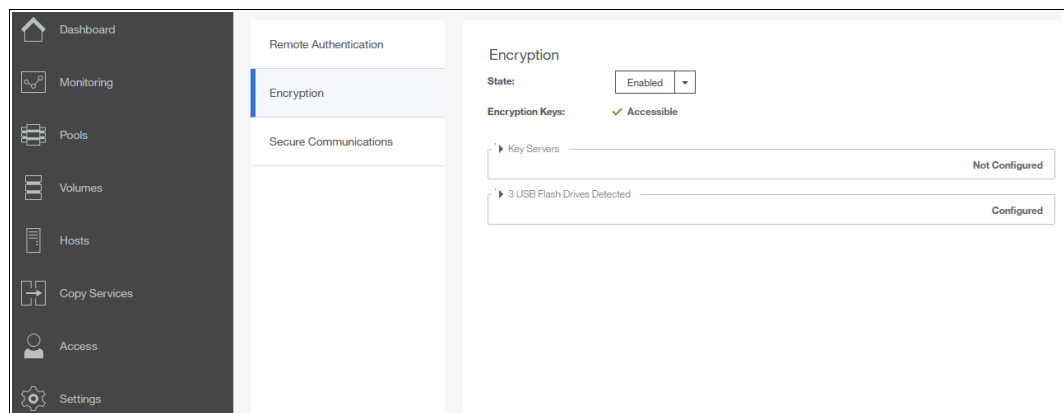

Figure 7-33 Encryption view showing using USB flash drives as the enabled provider
8. You can confirm that encryption is enabled and verify which key providers are in use by going to **Settings** → **Security** → **Encryption**, as shown in Figure 7-33.